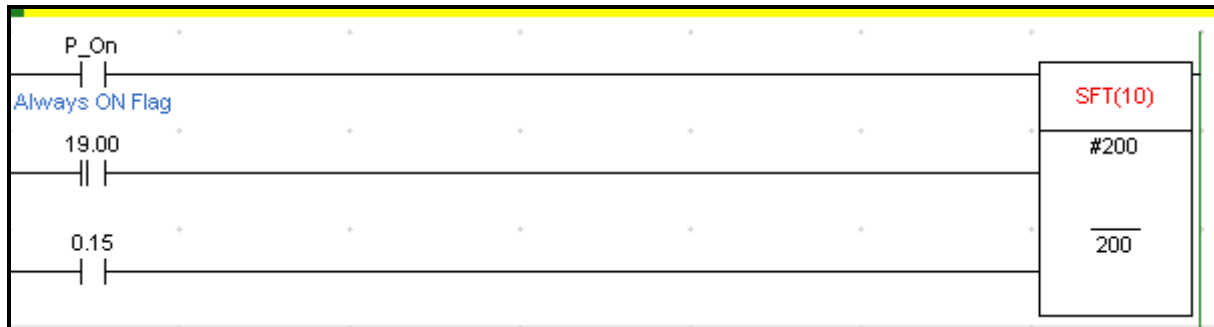

Figure 2: Ladder Diagram with Shift Register instructions
Figure 2 shows a ladder diagram with Shift Register Function.
- (c) Indicate the error(s) in **Figure 2**. (2 marks)